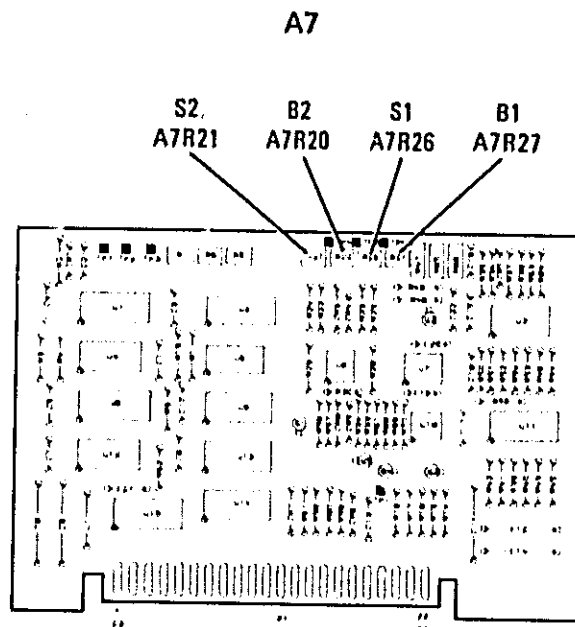

Figure 5-2. Oscillator Bias Test Point and Adjustment Location
1. Adjust A7R27 (B1) fully counterclockwise. A7R26 (S1) should then have no effect. Refer to Figure 5-2 for the adjustment location.